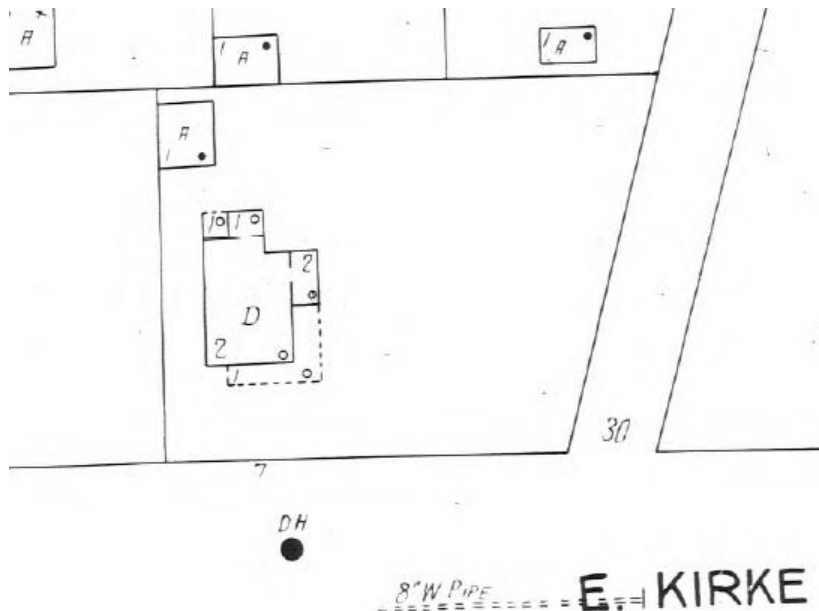

Figure 3: 1927 Sanborn Fire Insurance Map of the subject property showing the detached garage.
As a detached garage, the *Design Guidelines* require a lenient scrutiny review. Staff finds the proposed location of the garage is consistent with the existing hardscaping, which includes a driveway to the west of the house and is in the same approximate location as a since-demolished one-story garage (see Fig. 3, below). Staff additionally finds the dimensions of the proposed garage are appropriate and will not overwhelm the historic character of the resource or surrounding historic district. While a lenient scrutiny emphasizes massing and size, Staff finds the design and materials are compatible with the character of the house, including matching many of the features of the historic house, including matching siding and windows. Staff would support the construction of the garage as a HAWP under the *Design Guidelines*, 24A-8(b)(2) and (d); and Standards 2, and 10.